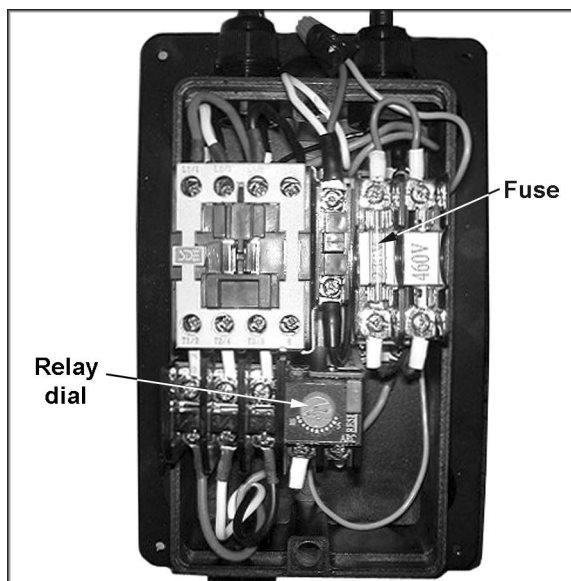

Figure 12
1. Remove the starter box cover and adjust the dial on the relay (see Figure 12) as close as possible to the amperage of the Jointer motor at 460V, as listed on the motor plate.
2. Move the fuse (Figure 12) from the 230V slot to the 460V slot.